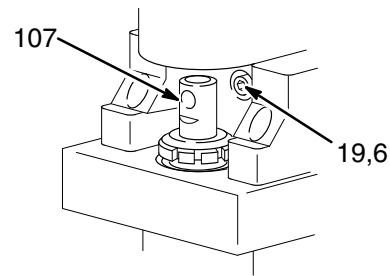
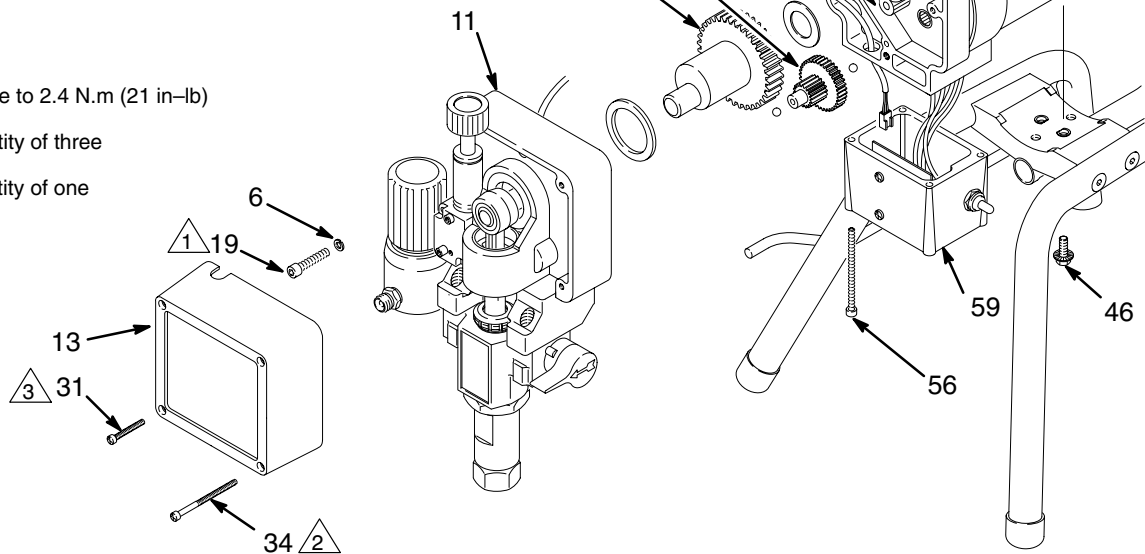
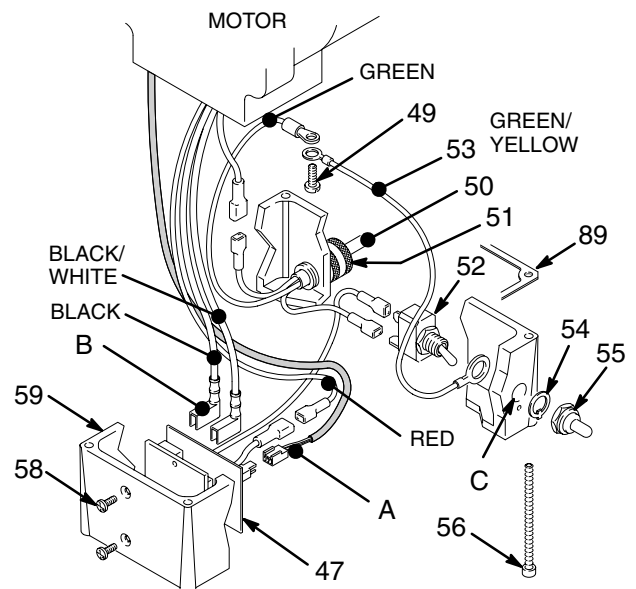

Fig. 20
Fig. 21
Fig. 22
NOTE: See Fig. 21 except where noted.
3. Remove the screws (56) and lower the junction box (59). Disconnect the motor wires and the pressure control wire (A) from the motor start board. Refer to Fig. 22 on page 23.
4. Remove the front cover (13).
5. Turn the displacement pump rod (107) so the pin hole aligns with the bottom drive housing screw (19). See Fig. 20. Remove the three drive housing screws and lockwashers (19,6). Also see Fig. 21.
6. Remove the two motor screws (5) and the lock washers (6).
7. Tap the lower rear of the drive housing (11) with a plastic mallet to loosen the motor. Pull the drive housing straight off the motor while guiding the harness (A) from the motor. Do not allow the gear (16) to fall. Read the CAUTION on page 24.
8. Remove the two screws (46) and lift the motor off the base (66).
9. Align the new motor with the base and reinstall the screws (46).
11. Connect the wires in the junction box. Refer to Fig. 22 on page 23. Install the junction box.
12. Connect the piston rod (107) to the drive housing; see page 21, **Installing the Pump**, Step 2 and the **WARNING** following it.
NOTE: See Fig. 22 for this procedure.